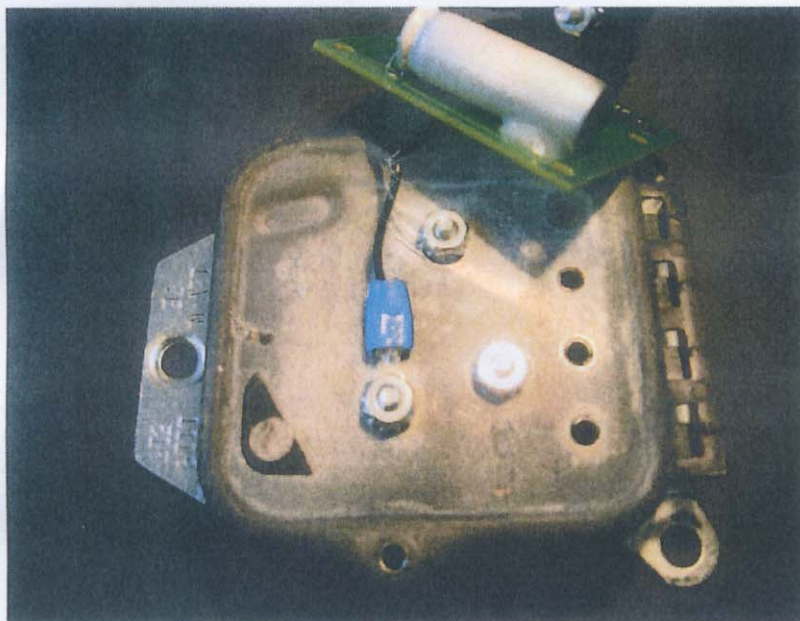

Figure 3
1. Remove the nut from the screw mounted between the two resistors on the bottom side of the base, place the ring terminal of the free-hanging ground wire on the circuit board onto the screw and replace and tighten the nut (see Figure 3).